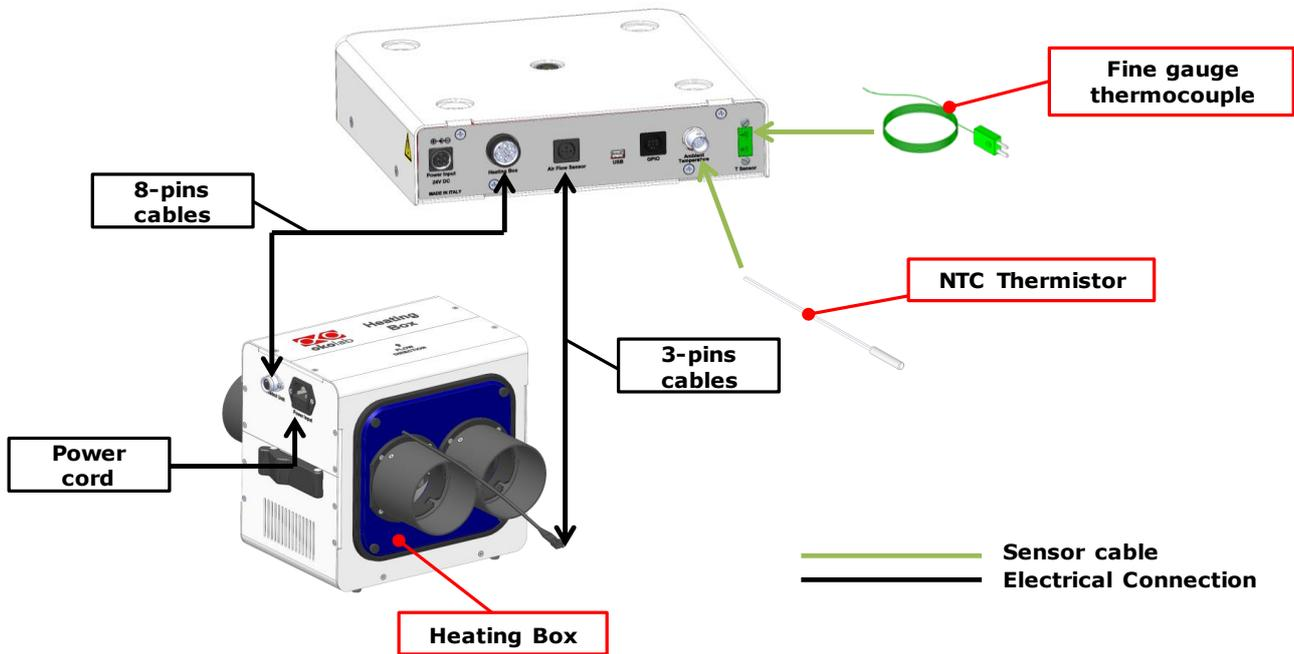

Figure 6. H201-T-UNIT-BL. Standard Connection
1. Connect the Heating Box to the port labeled 'Heating Box' on the rear panel of the Temperature Control Unit (see Figure 6).
2. Plug the NTC Connector on the port labeled 'Ambient Temperature' located on the rear panel of the Temperature Control Unit (see Figure 6). This temperature sensor must be placed in air close to the illumination pillar in proximity to the microscope stage. This thermistor monitors the air temperature inside the cage. The NTC thermistor can be also used to monitor the room temperature when working in Sample Feedback Mode. In this case, you have to place it outside the cage.
3. The Fine Gauge Thermocouple (green) plugs into the green port labeled 'Reference Temperature' located on the rear panel of the Temperature Control Unit (see Figure 6). When operating the device in 'Sample Feedback Mode' place this thermocouple in a Reference Well filled with water. Make sure that the end of the Fine Gauge Thermocouple is fully immersed.